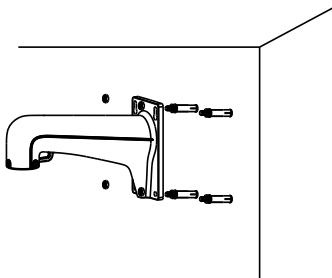
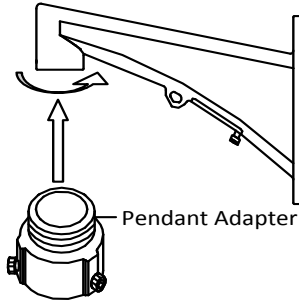

Figure 2-4 Secure the Mount
Figure 2-5 Pendent Adapter
- The mount in Figure 2-4 is the recommended mount for this series of speed dome, and a pendent adapter is required if any other mount is selected. See Figure 2-5.